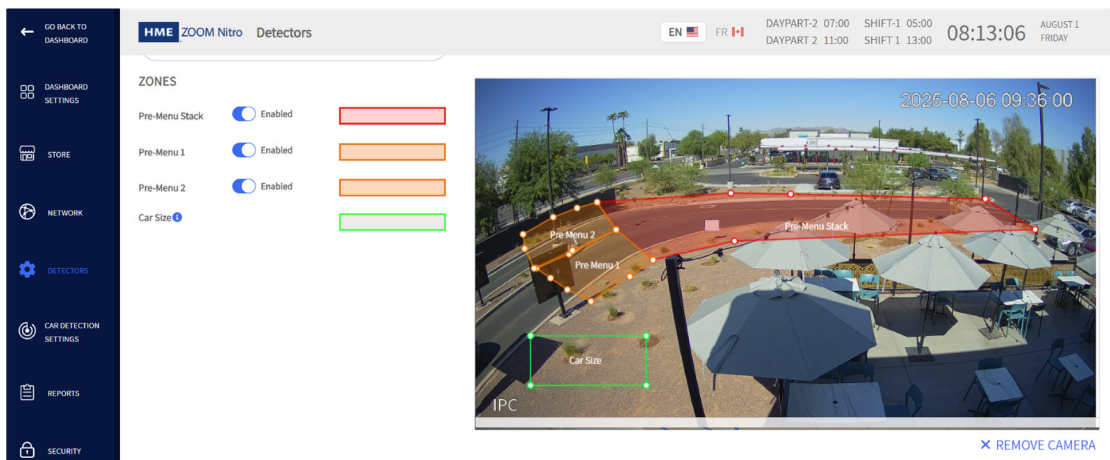

Fig. 31
- Fig. 31 shows an example of a Y Lane. It is configured the same way a Single Lane is configured. The only difference is that it has two Pre-Menu zones instead of one.